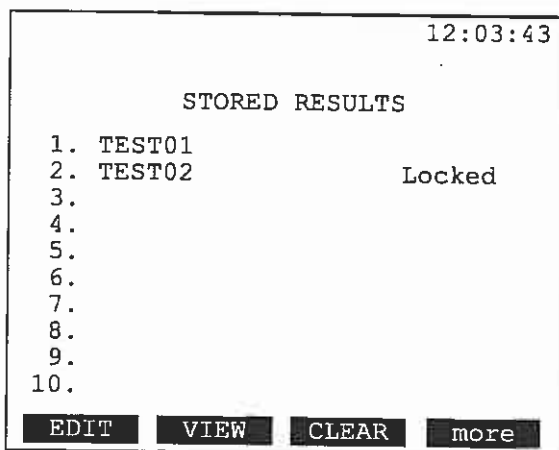

Figure 18 Stored Results List Screen
Upon pressing a STORE F-key, you will see the STORED RESULTS list screen. The screen in Figure 18 lists all other results that have already been stored.
2. The STORED RESULTS list screen appears as in Figure 18.
2. The STORED RESULTS list screen appears in Figure 18.